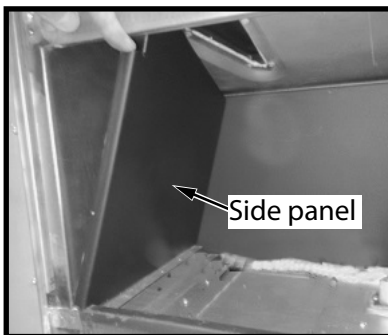

Figure 42: Side panel.
2. Insert first side (2 & 3) panel by inserting the front edge of the panel into the lip at the front of the firebox. Then slide the back of the panel until it reaches the firebox side wall. See Figure 42.